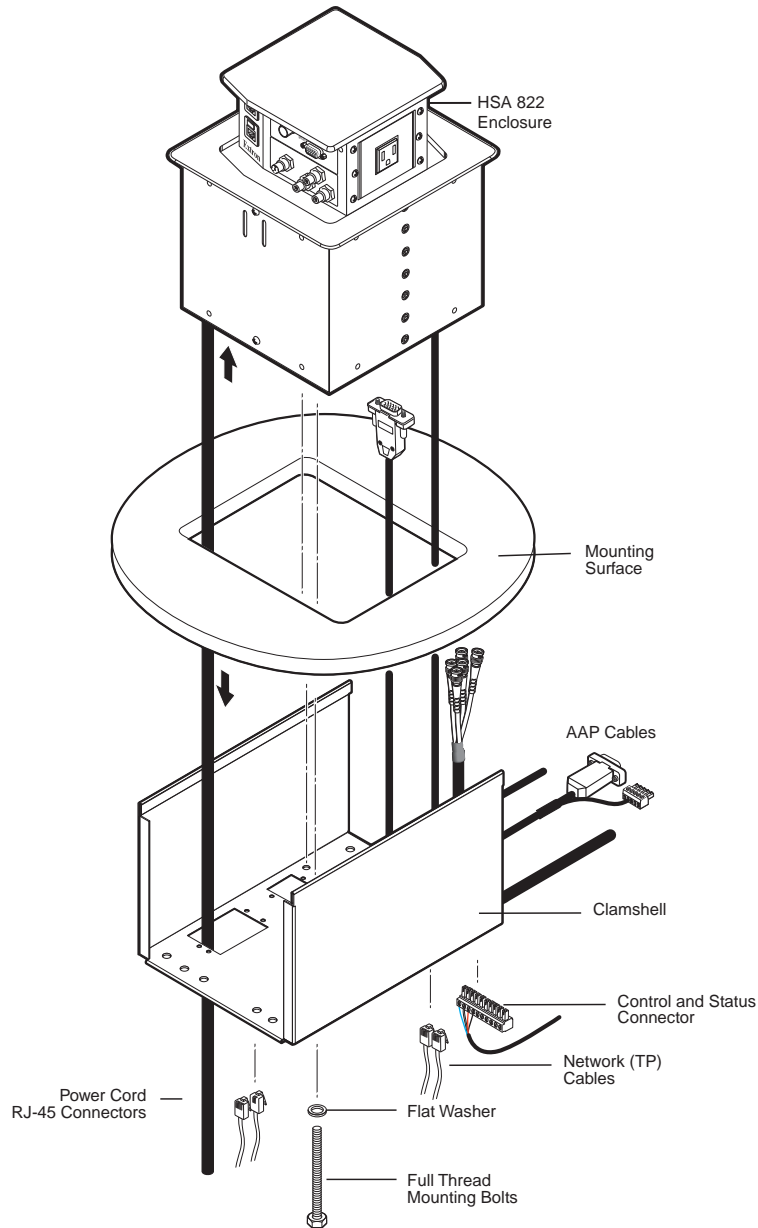

Figure 3-5 — Removing the HSA 822M from the table
9. On the underside of the table, remove the two bolts that secure the clamshell to the surface mount enclosure and remove the clamshell (figure 3-5).